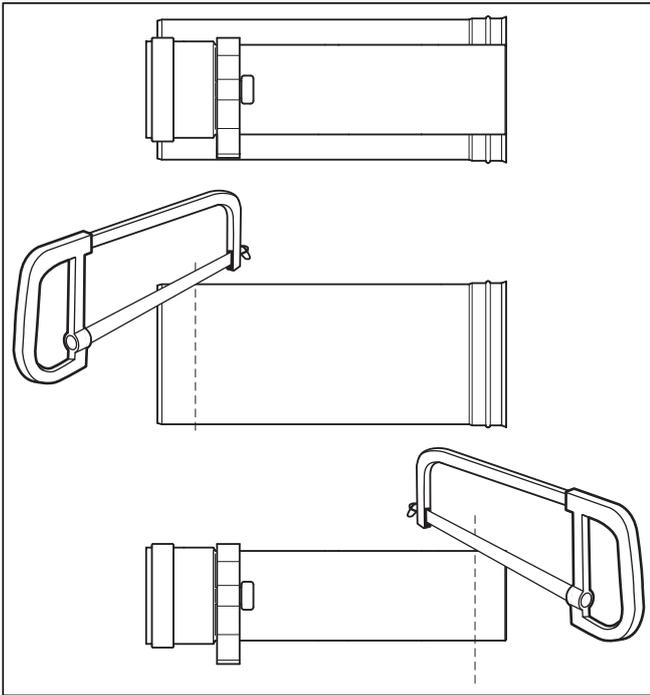

Fig. 2.25 Shortening of extension
Shorten the flue pipe and outer pipe on the side facing away from the sleeve (Fig. 2.25). The spacer must remain locked in position at the flue pipe.
- Push the flue pipe back into the outer pipe, as shown in Fig. 2.25.